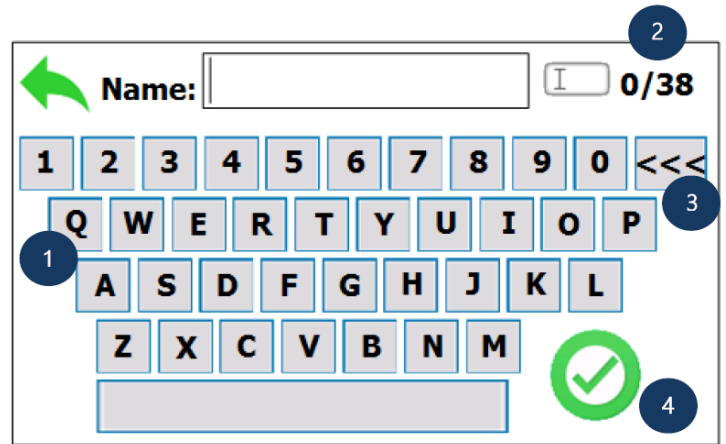
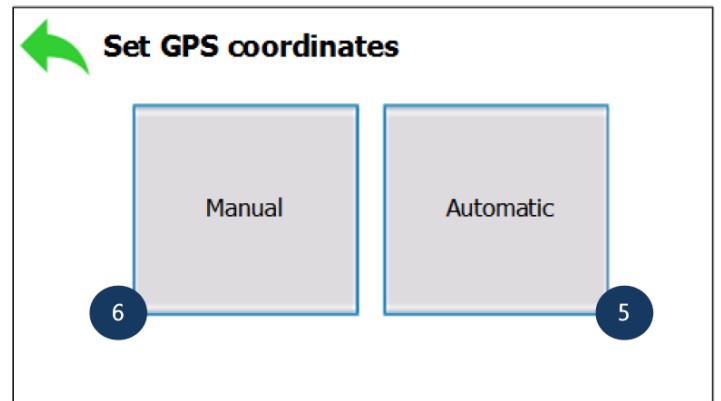

Figure 4 Type location name
Figure 5 Manual or Automatic coordinates
By pressing the "Add new location" button at the "Select location" screen, the keyboard shown at Figure 4 will appear. By pressing the letters on the keyboard (1) it is possible to type a base location name. The maximum character amount is 38 which is shown at the upper side of the screen (2). With the backspace button (3) it is possible to delete and correct a wrong typed character. Confirming the name by pressing the green button (4), will bring you to the screen shown at Figure 5.